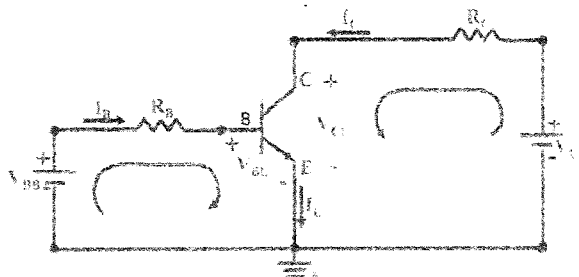

Fig. 2.
6. The power BJT circuit shown in Fig. 2. is specified to have β in the range 10 to 45, the load resistance $R_C=10\Omega$, $V_{CC}=200V$, $V_{BB}=10V$. If $V_{CE(sat)}=1V$ and $V_{BE(sat)}=1.5V$. Determine R_B that results in saturation with an ODF of 6?